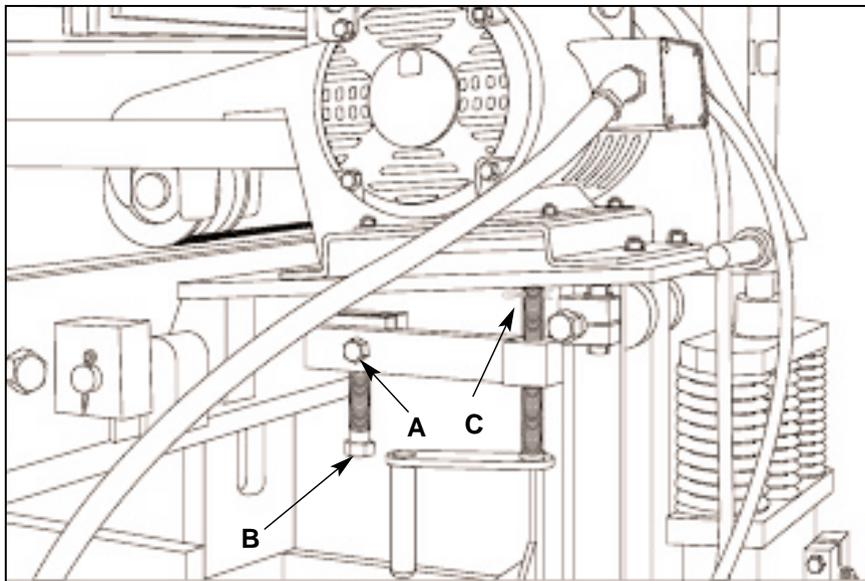

Figure 5.23 VIBRATING MOTOR HEIGHT ADJUSTMENT SCREW (B).
5.5.19 Loosen clamp bolt (A) (see figure 5.23).
5.5.20 Turn adjusting screw (B) up until it contacts under side of right hand vibrating motor support plate (see figure 5.23). The adjusting screw (B) is located under the right vibrating motor.
5.5.24 Recheck 1" dimension. During vibration, if mold works off center to the right, turn adjusting screw (B) up (see figure 5.23) which will move the vibrating motor up. If molds works off center to the left, turn adjusting screw (B) down (see figure 5.23).
Note: Make sure base is not on the jacking screw (C) when adjusting vibrating motor height (see figure 5.23).